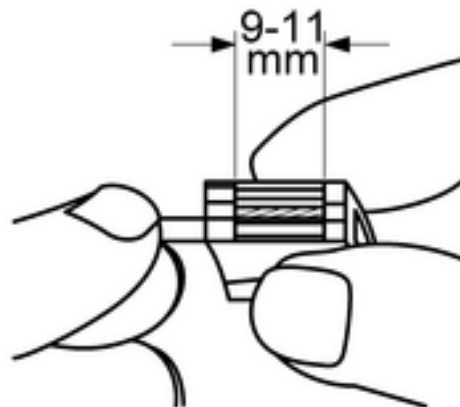

Figure 5: Stripping length
- Strip 9 - 11 mm of the cable (figure 5).